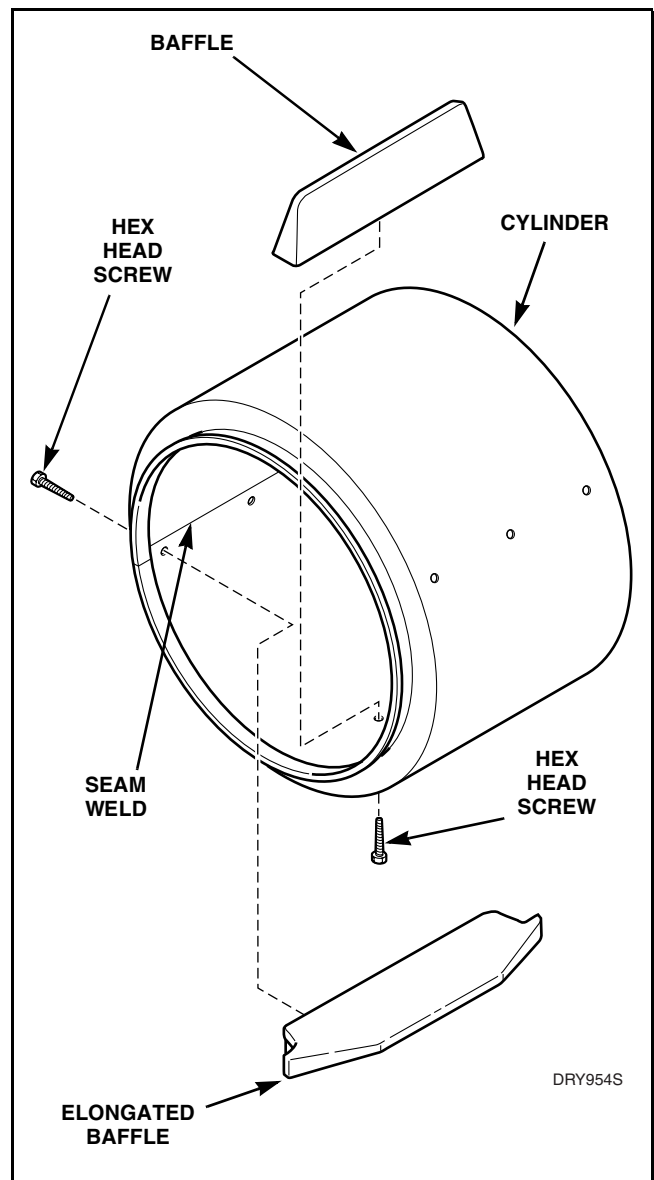

Figure 32
- Remove screws holding baffles to cylinder. Refer to *Figure 32*.
IMPORTANT: The elongated baffle must be installed to cover the cylinder seam weld. Refer to *Figure 32*.